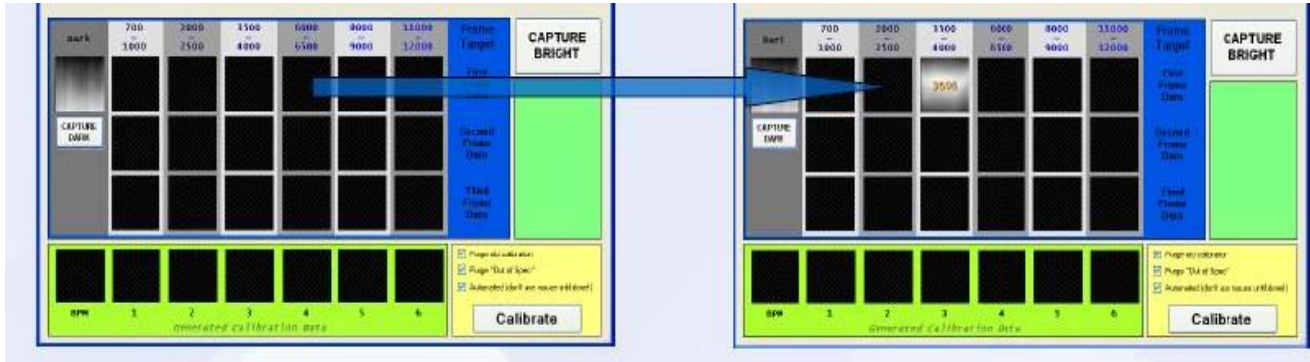

Figure 7
9. Capture Bright exposures – Figure 7
10. Repeat the Capture Bright procedure until all the columns are populated, once started in a field do not make any adjustments to KVP or MAS until that field is complete, use the KVP adjustment to make slight adjustments use MAS to make larger adjustments. – Figure 7